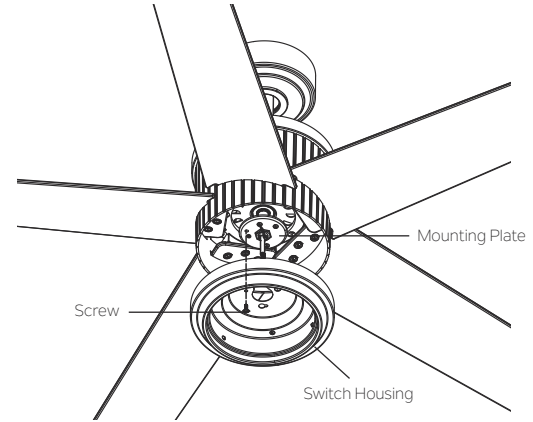

Fig. 19
**Step 1.** Remove the screw marked with a dot label which is preinstalled on mounting plate and keep for later use. Loosen the other two (do not remove). Place the two slot holes on the switch housing over the 2 screws previously loosened from the mounting plate. Rotate the switch housing until it locks in place at the narrow end of the key holes. Secure by tightening the 2 screws previously loosened and the one previously removed. (Fig. 19)